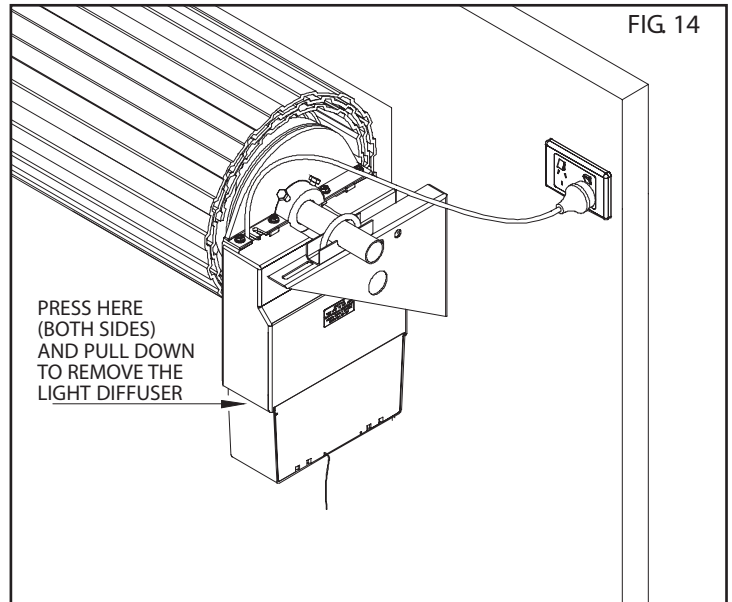
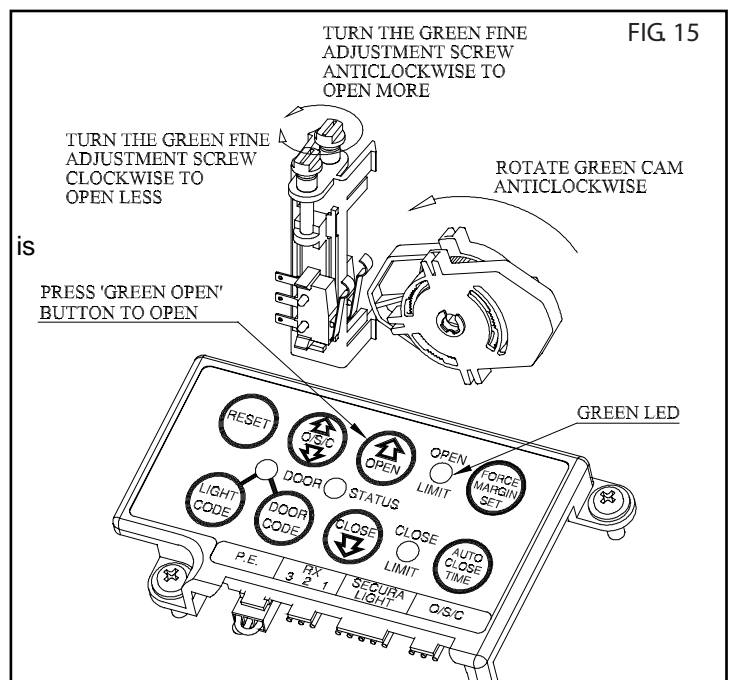

FIG 14
FIG 15
1. With the drive unit in manual mode (Fig. 14) move the door up by hand to the desired open position.
2. Remove the light diffuser (Fig. 14). Rotate the green limit cam by hand in an anticlockwise direction (Fig. 15) until the cam clicks the open limit switch.
6. Re-engage the drive gear by pulling down on the string and then releasing slowly (Fig. 14).
Press and hold the green Open button (Fig. 15) The door should start opening. Release the green Open button when the door reaches the desired open position. If the green LED (Fig. 15) illuminated and the desired limit position has been reached then the limit adjustment is complete. If the green LED is illuminated but you are not happy with the door's open position, the green Fine Adjustment Screw (Fig. 15) can be adjusted to fine tune the open position. Turn the screw anti-clockwise to open the door more. To open the door less turn the screw clockwise. Each complete revolution of the adjustment screw is equal to approximately 10mm of door travel.